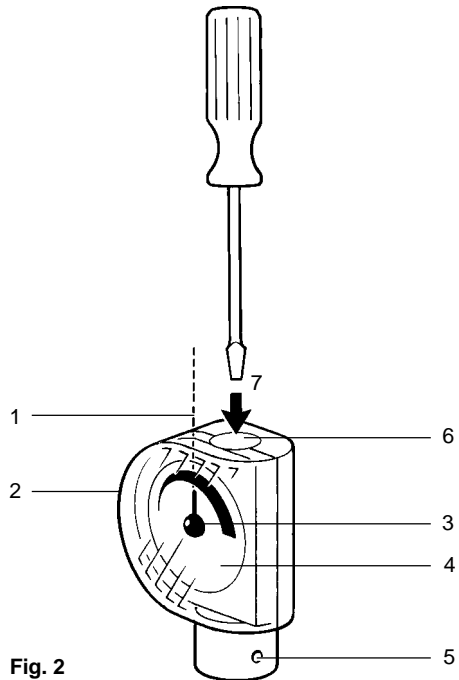
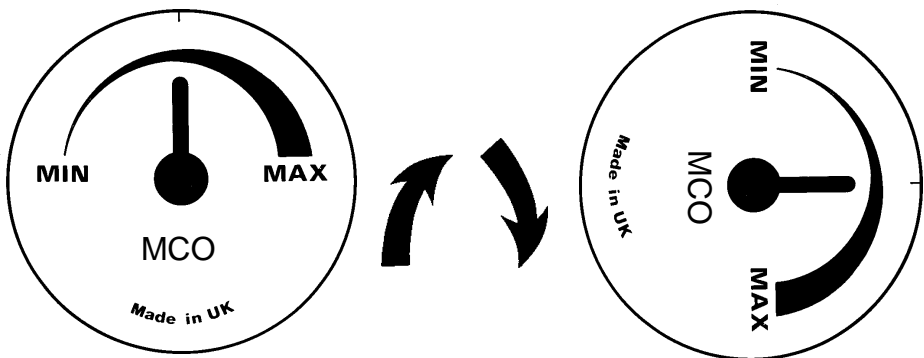

Fig. 2
Fig. 3
1. Rotation of temperature scale (See Fig. 3).
In some instances it may be necessary to rotate the scale so the set temperature may be more easily read. In such cases the following procedure should be adopted and references made to **Figure 2 and Figure 3**.
1. Remove tamper proof plug (Fig 2, Item 6) and use a suitable screwdriver to set indicator (Fig 2, Item 3) to midway point (Fig 2, Item 1)
2. Remove transparent cover (Fig 2, Item 2)
3. Remove indicator (Fig 2, Item 3)
4. Remove the scale (Fig 2, Item 4) from the indicator and relocate to desired position. (Fig.3)
5. Replace indicator (Fig 2, Item 3) to the midway point of the scale. (Fig 2, Item 1)
6. Replace transparent cover. (Fig 2, Item 2)
The dial head itself may be rotated through 180° if necessary. In such cases the following procedure should be adopted and reference made to **Figure 2 and Figure 4**.
4. Remove dial head retaining screws (Fig 2, Item 5)
6. Replace dial retaining screws. (Fig 2, Item 5)
For the following instructions you should make reference to Figure 2. The sensor is despatched with its adjustment set to the highest limit and should be set on site to the midway mark (Fig 2, Item 1).
To make any adjustments to suit individual requirements a suitably sized screwdriver is engaged in the adjustment drive (Fig 2, Item 7) on the end of the indicator dial. Turning clockwise will lower the temperature, anticlockwise will increase it. After setting the plant to work, compare the thermometer reading with the scale reading on the temperature control reading. This may be found to differ by a few degrees, if precise control is required it can be adjusted by resetting the scale as follows:-
1. Remove the transparent front cover (Fig 2, Item 2) of the indicator head and turn the indicator manually (Fig 2, Item 3) until it corresponds to the actual temperature.
2. Replace transparent cover (Fig 2 Item 2)